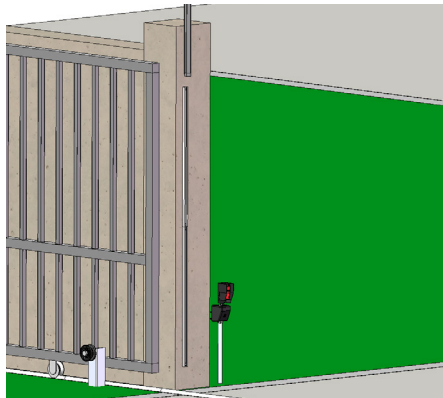

Fig 2
2. Slide the rubber edge material down into the aluminum channel. Fig 2.